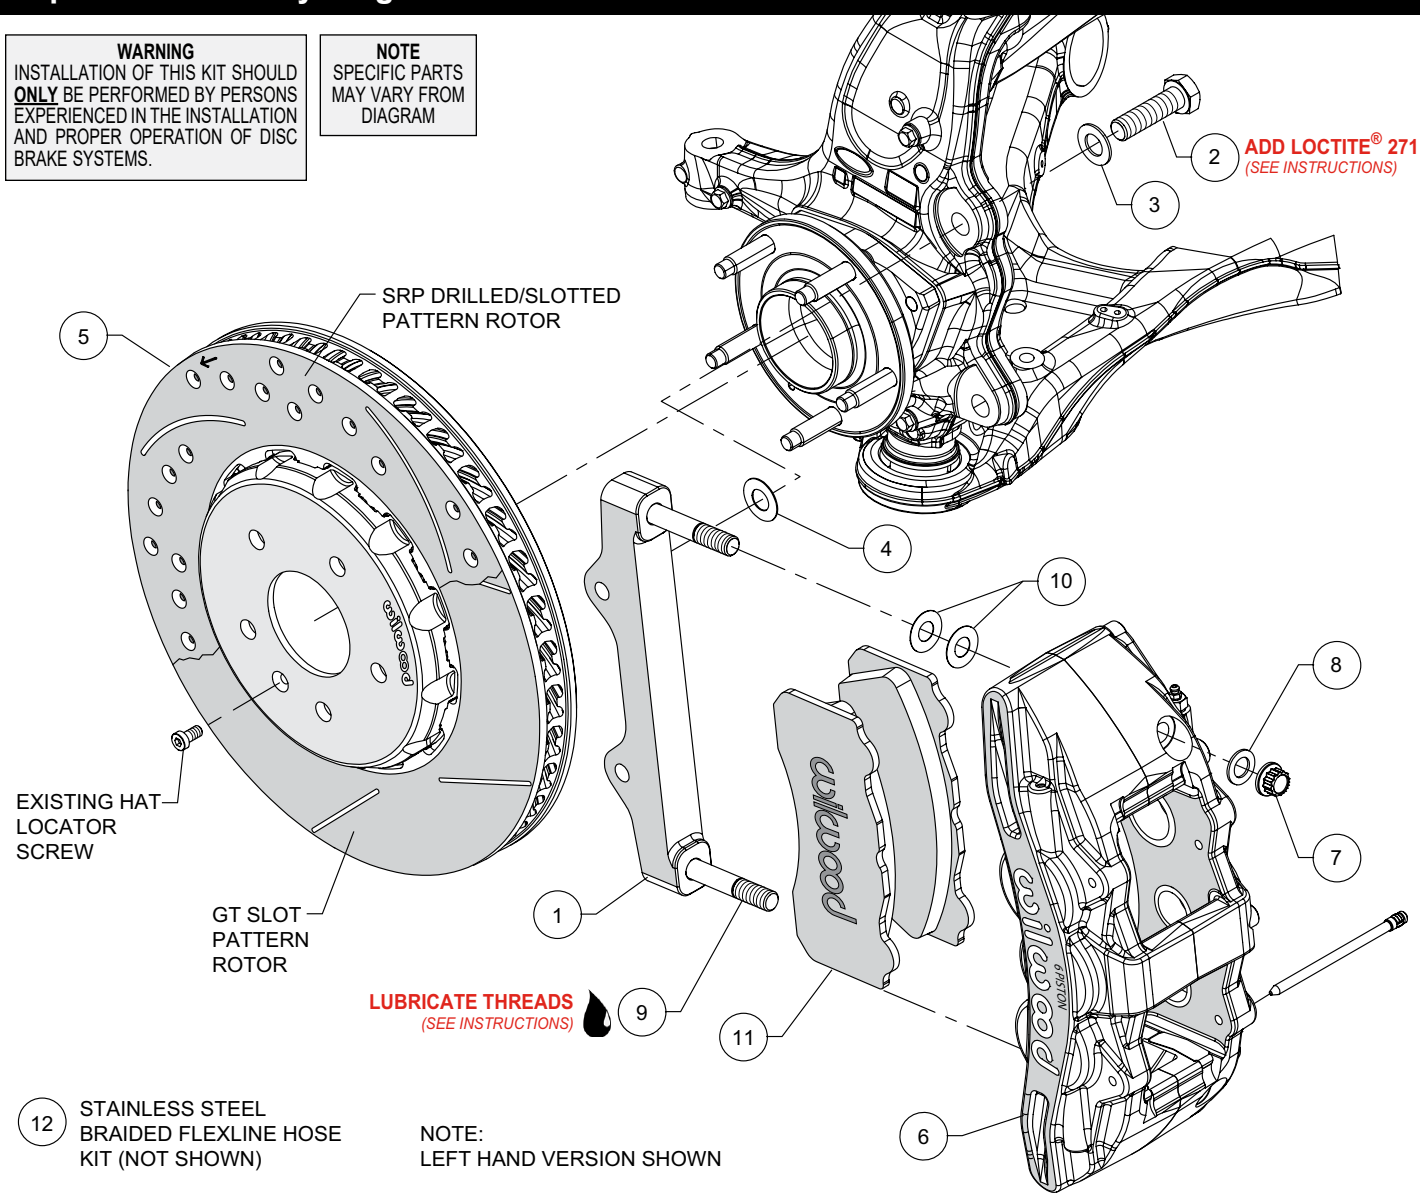

Figure 1. Typical Installation Configuration
NOTE: Numbers in parenthesis refer to the parts list and Figure 1 on the preceding pages.
- The caliper mount bracket (1) should initially be installed with clean, dry threads on the mounting bolts. Orient the bracket, as shown in Figure 1 and Photo 1, and install using bolts (2) and washers (3). Initially place one .029" thick shim (4) on each bolt between the bracket and upright, Figure 1. Temporarily tighten the mounting bolts. **NOTE:** *The bracket must fit squarely against the mount bosses on the upright.* Inspect for interference from casting irregularities, machining ridges, burrs, etc. Later, after the caliper alignment has been checked, the mount bolts will be secured using red *Loctite*® 271.
- The hat/rotor assembly (5) has been pre-assembled at the factory. Verify the retaining ring holding the hat and rotor together is fully engaged in the groove in the hat. Slide the hat/rotor assembly onto the axle hub, Photo 2. **NOTE:** *The hat must fit flush against the axle hub flange or excessive rotor run out may result.* Install the hat locator screw (OEM), as shown in Figure 1, to keep the hat/rotor assembly in place while continuing with the installation.
- NOTE:** *This kit contains distinct right and left hand calipers that must be mounted in a specific direction, as described below.* Lubricate the caliper mounting studs (9) with lightweight oil. Initially place two .015" thick shims (10) on each stud between the caliper and the bracket, as shown in Figure 1 and Photo 3. Mount the caliper (6) onto the bracket (1) using lock nuts (7) and washers (8), Figure 1. Temporarily tighten the lock nuts. Ensure that the caliper is mounted so the largest pistons are at the rotor exit end of the caliper, in relation to the direction of the rotor. View the rotor through the top opening of the caliper. The rotor should be centered in the caliper, Photo 4. If not, adjust by adding or subtracting shims (4) between the bracket and the upright. Always use the same amount of shims on each of the two mounting bolts. Once the caliper alignment is correct, remove the bracket mounting bolts (2) one at a time, apply red *Loctite*® 271 to the threads, and torque to 77 ft-lbs.
• Remove the two pad retaining pins from the caliper (6) by pushing out the pins from the tapered end using a blunt instrument. Insert the brake pads (11) into the caliper from the bottom, Figure 1 and Photo 5. With the friction material facing the rotor, secure the brake pads in place with the pad retaining pins, Photo 6. Reinstall the caliper onto the caliper mounting bracket and temporarily tighten the lock nuts (7). Check that the top of the brake pad is flush with the outside diameter of the rotor, Photo 7. If not, adjust by adding or subtracting shims (10) between the caliper and the bracket. After the caliper pad height is set, torque the caliper lock nuts (7) to 65 ft-lb.